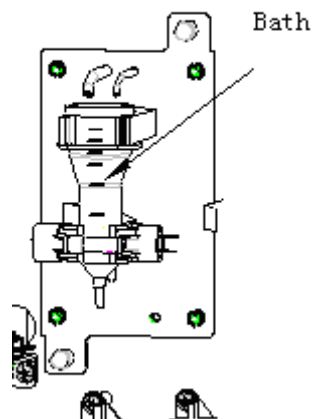

Figure 8-12 Bath
- Remove the shielding box to expose the bath, as Figure 8-12 shows.